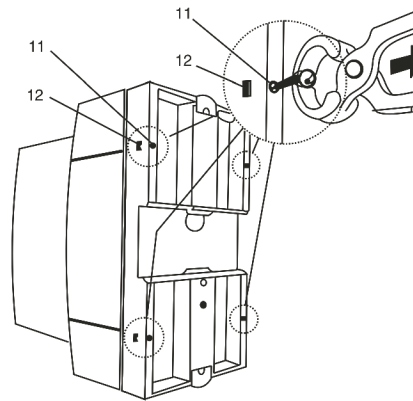

Fig. 14 Withdrawing the device
7. Withdrawing and inserting the device (Fig. 14)